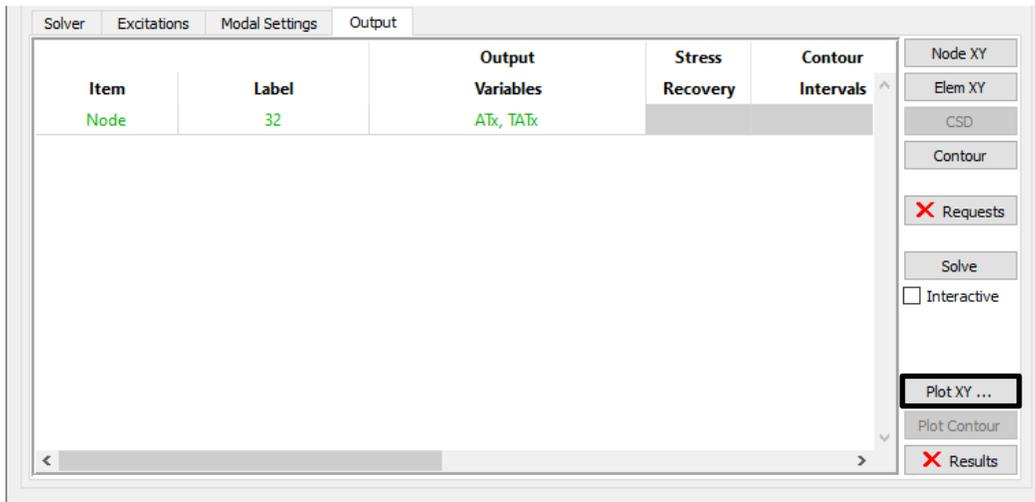

Figure 4-16. Results are available for requests in green text. Display them.
- b. The text of the request turns green when the solver has finished and its results are available (Figure 4-16). Plot the results by clicking the **Plot XY...** button.